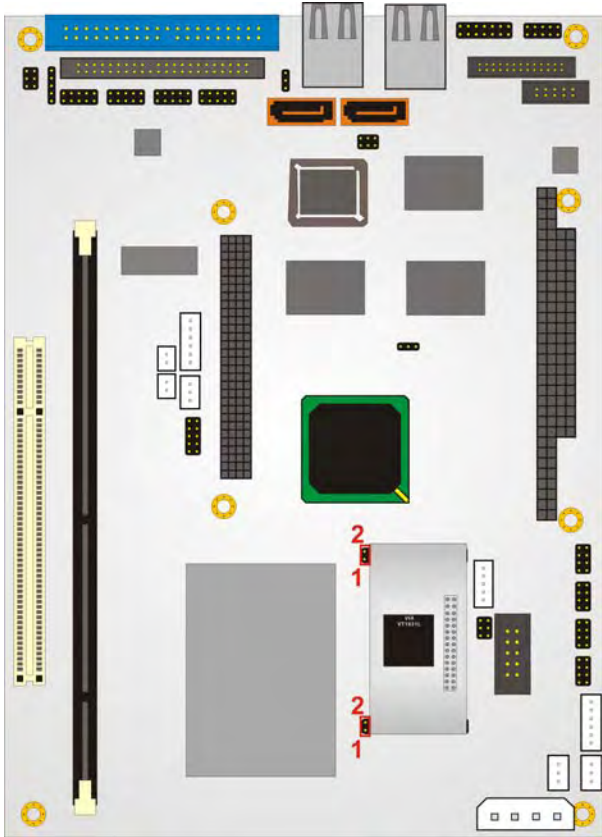

Figure 4-3: 24-bit LVDS 3907720 Connectivity
- Step 6:** Slide the 3907720 onto the connectors. Pin 1 and Pin 2 on both the J4 and J5 connector should be visible. See **Figure 4-3**.